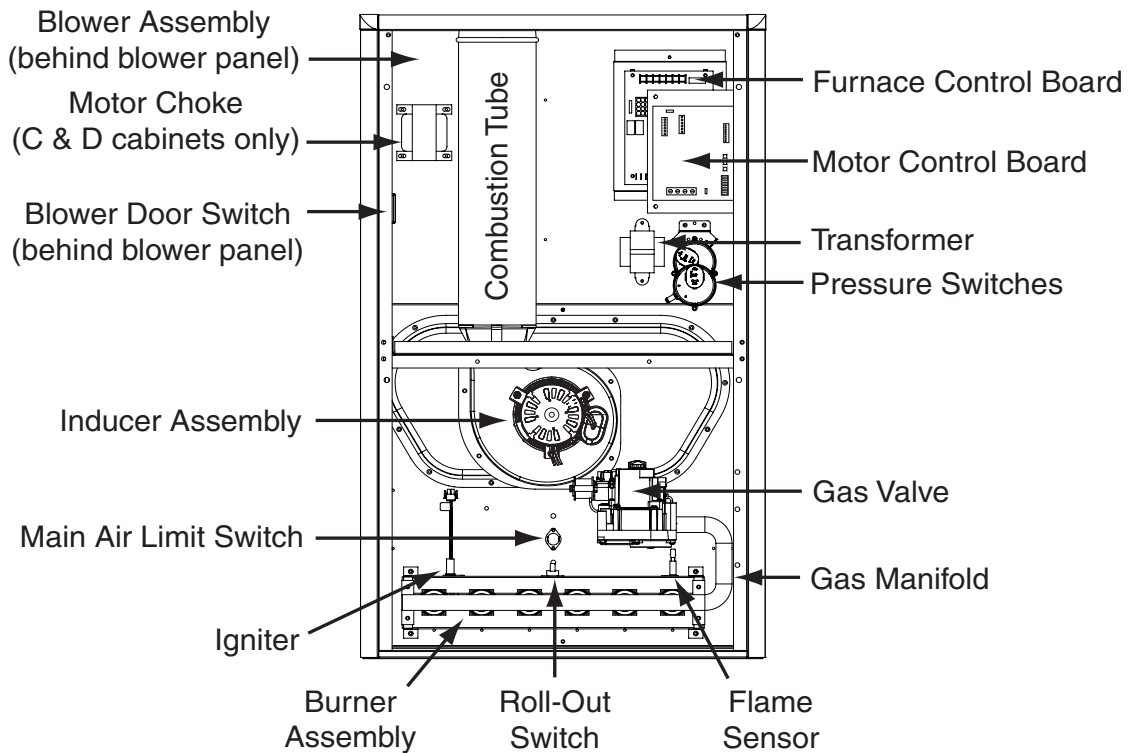

Figure 29. Component Locations
- If the Inducer Blower is operating, and items above have been verified, check the Blower Limit Switch (Figure 29, \(page 41\)) and reset if necessary.
- If the furnace still doesn't operate, check the Flame Roll-out Switches (Figure 29) and reset if necessary.
The descriptions below are various functional components that affect the operation and shutting down of this furnace. Some of these components and their locations are shown in Figure 29, \(page 41\). If any component of the furnace must be replaced, use only factory authorized replacement parts specified in the Replacement Parts List provided online.